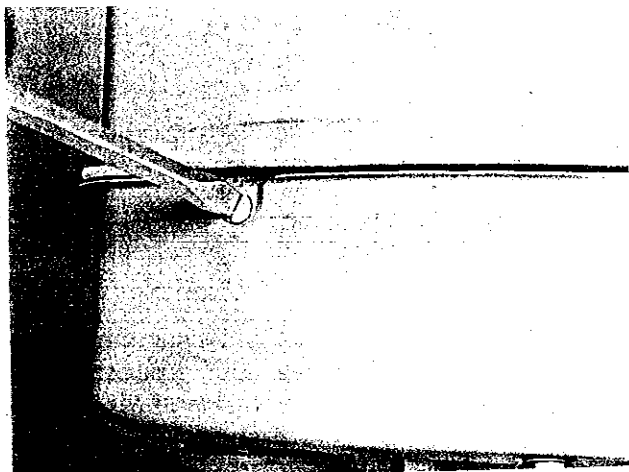

Figure 43
- A. Remove four pan head screws from lower shroud. (See Figure 43.)